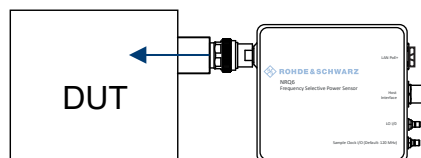

Figure 6-5: LO leakage into the DUT
In a receiver-based power sensor, signal leakage paths can occur. Local oscillator (LO) energy can leak through the mixer stage and the RF connection into DUT. In Figure 6-5, this LO leakage is symbolized by the blue arrow.